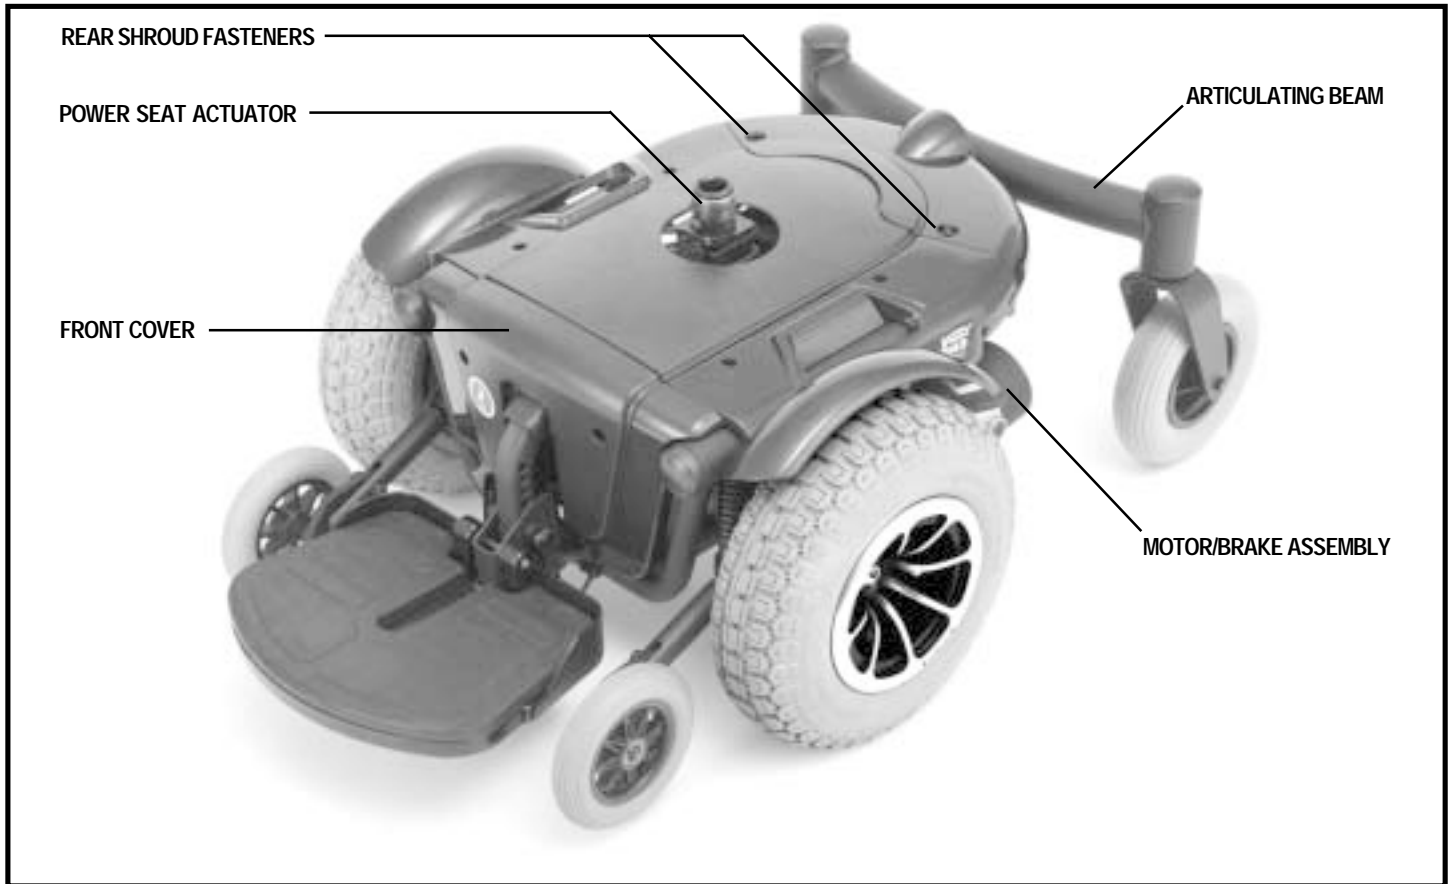

Figure 6. The Jazzy 1143 Ultra Power Base
2. Turn the rear shroud fasteners one-quarter turn in any direction and remove the rear shroud cover. See figure 6.